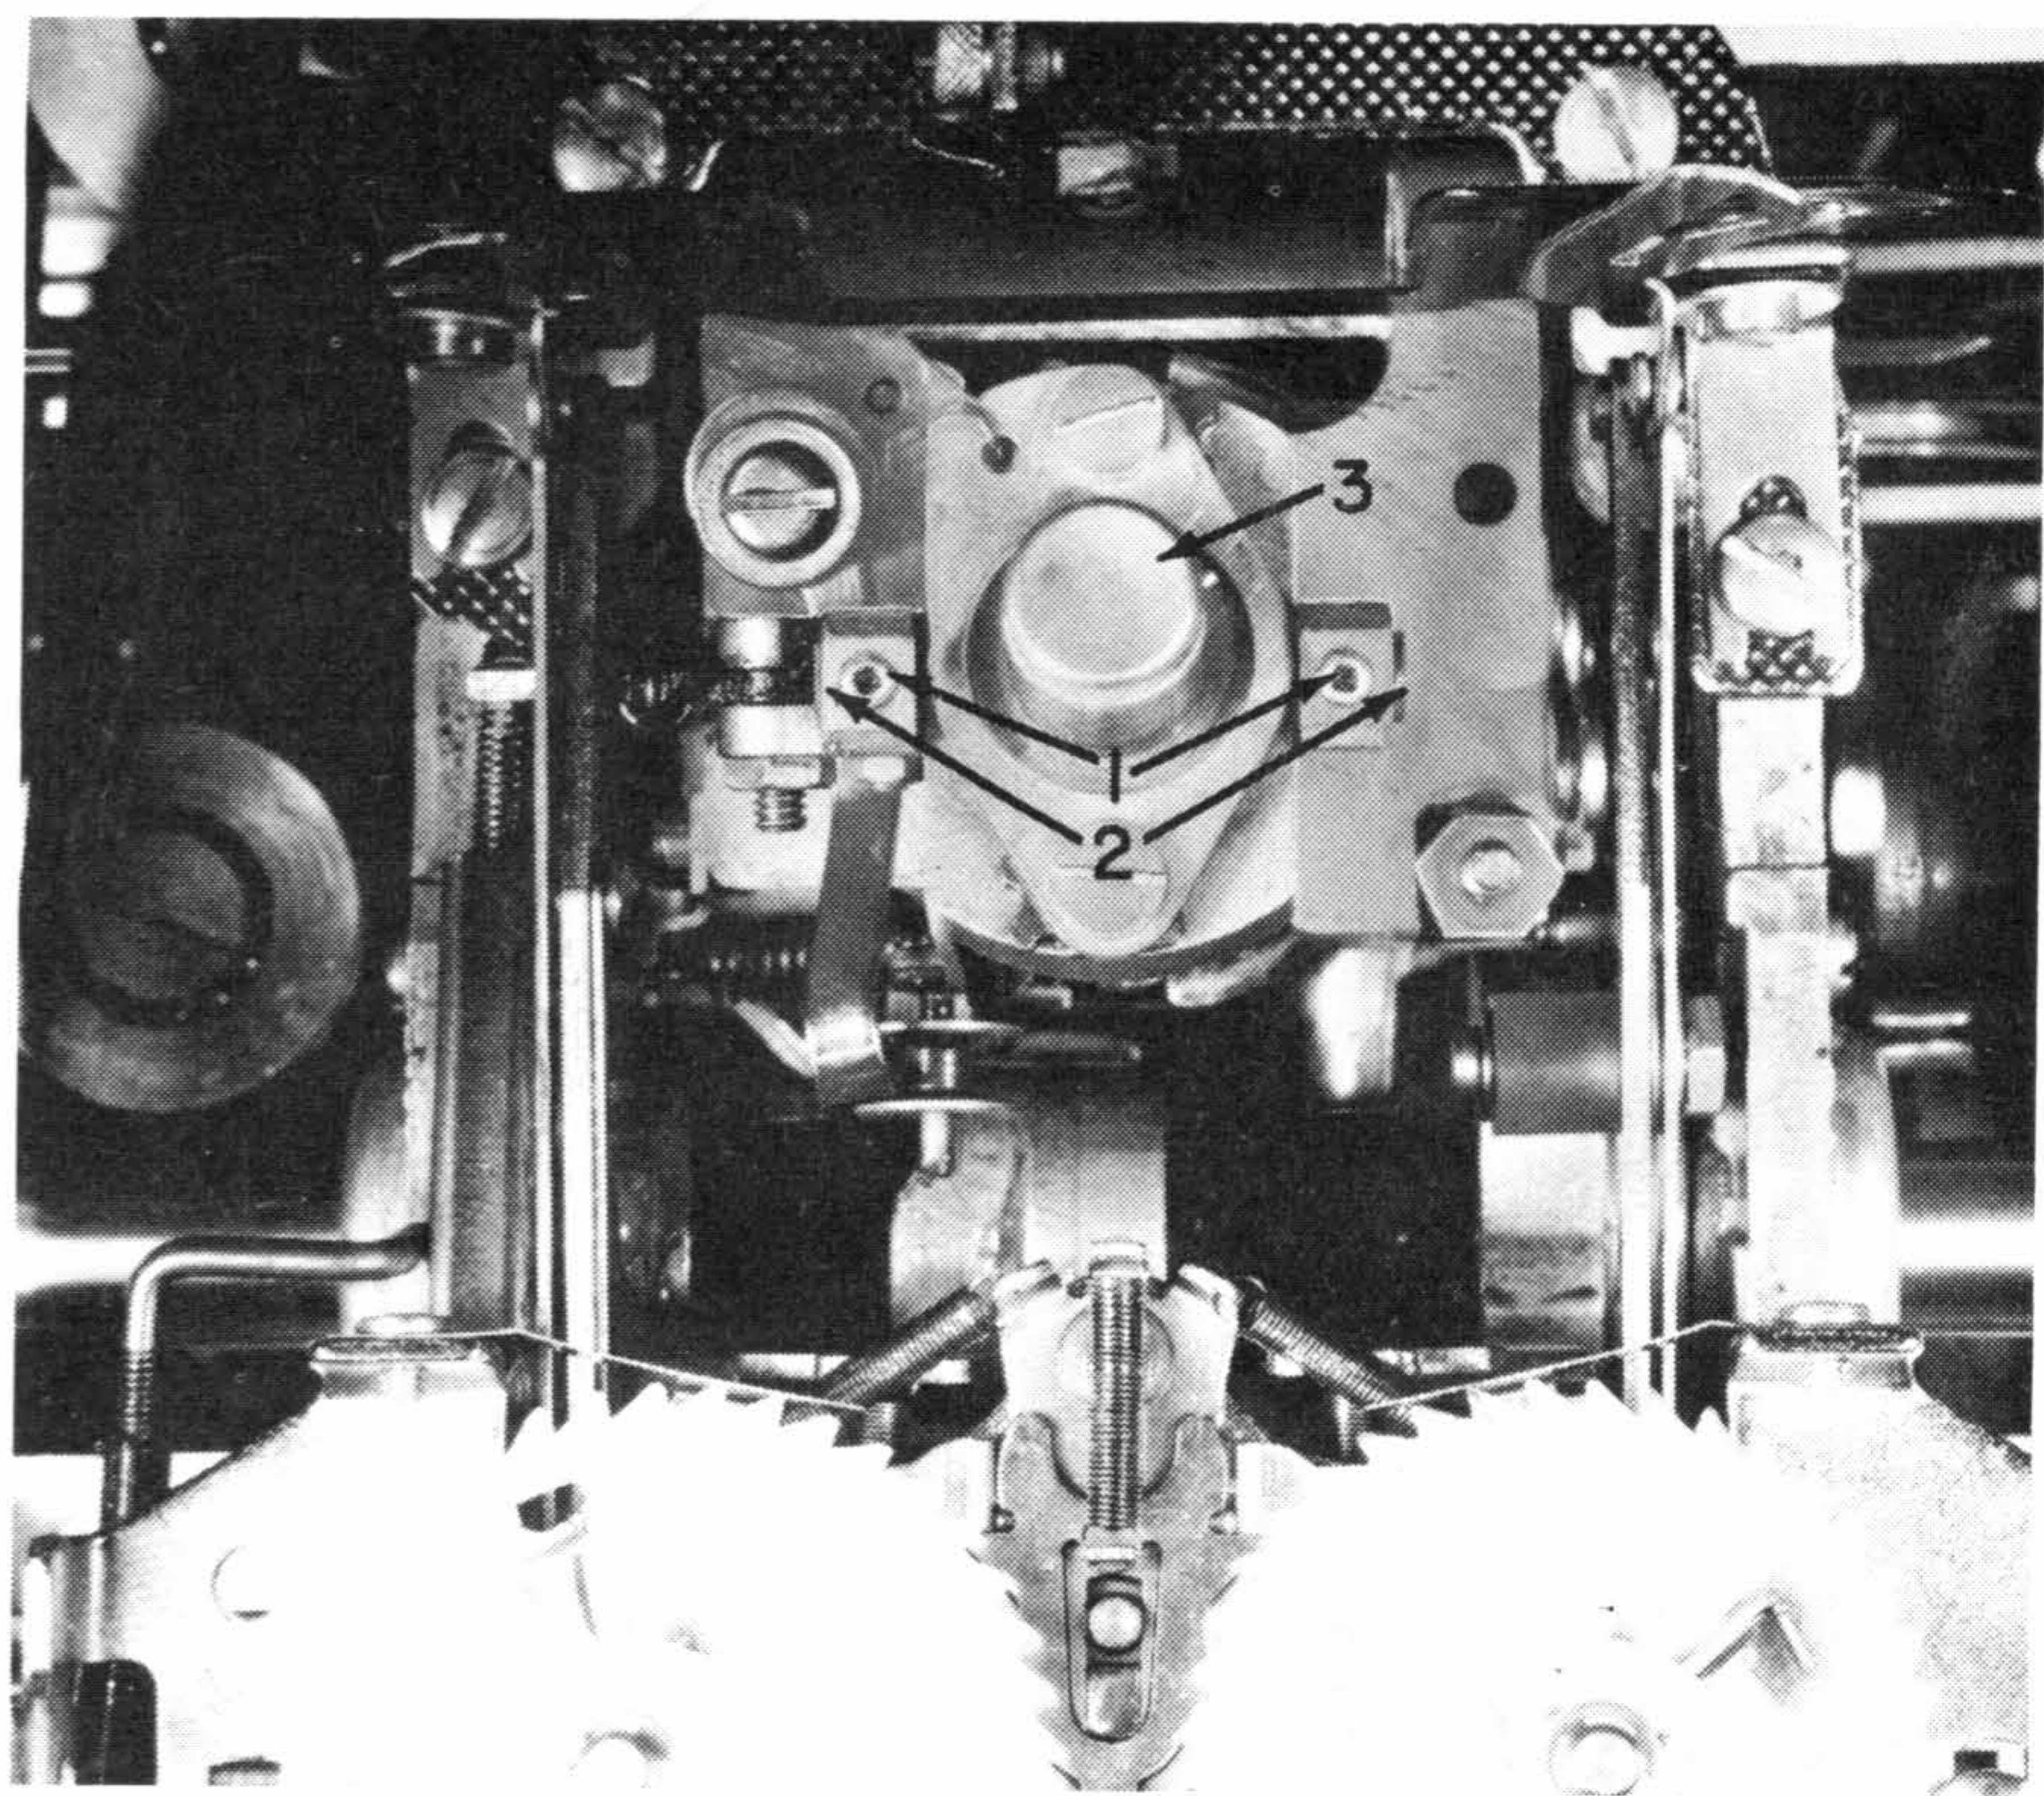

Figure 15. Lower Ball Socket and Tilt Ring Removal
5. Loosen the two setscrews (#1, Figure 15).
6. Remove the two pivot pins (#2, Figure 15).
7. Remove the tilt ring (#3, Figure 15) and remove the ball joint.